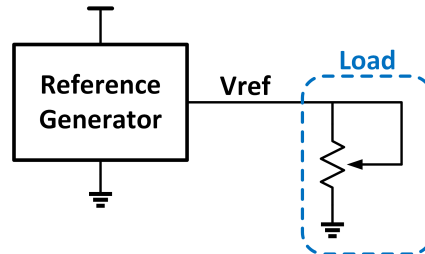

Figure 4: Simple reference generator measurement circuit.
1. Draw the voltage reference circuit shown in 3(b) with a resistive load ( $\mathbf{R}_L$ ) as shown in Fig. 4. Set  $V_1 = 4 + 0.5 \sin(2\pi 100t)$  with  $R_{ref} = 100\Omega$ . Perform a DC operating point simulation while sweeping the resistive load from  $10\Omega$  to  $2k\Omega$  with an increment of  $10\Omega$ . Please refer to the LTspice tutorial on the website for details on how to set the resistor as the sweep variable.
2. Attach a **5k $\Omega$**  potentiometer as a load to the output voltage as illustrated in Fig. 4.